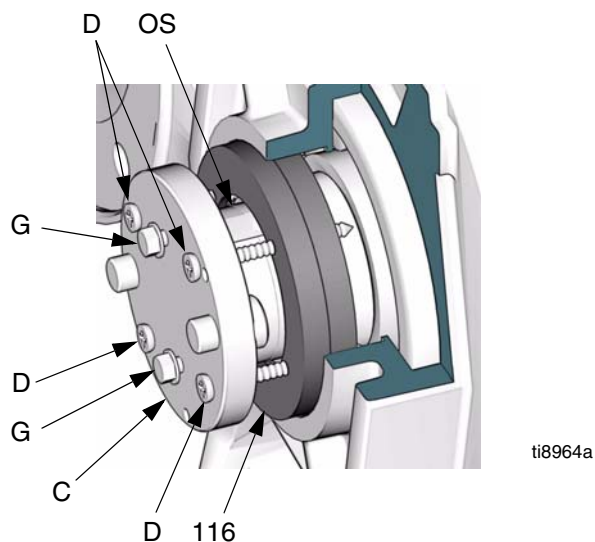

FIG. 20. Remove Output Shaft Seals
7. Place tape over the input shaft keyway, to prevent damage to the new seal. Pack the input shaft seal cavity with Part No. 107411 Grease. Install the input seal (109) with the lip facing in, until the seal contacts the shoulder of the gear reducer housing. Remove the tape.
8. Install the gasket (119) on the oil drain plug (118) and screw the plug into the gear reducer. Tighten securely.
10. Remove the two output seals (116) as follows:
- a. See FIG. 20. Place the tool (C) onto the output shaft (OS). Turn the tool 90°. Install and tighten the two 0.5 in. (13 mm) screws (G) to lock the tool in place.
- b. Drill 1/8 in. (3 mm) diameter (maximum) pilot holes in the seals (116), using the holes for the sheet metal screws (D) as a template. Install the sheet metal screws (D) through the tool and into the seals (116).
- c. Tighten screws (D) evenly to pull both seals out.